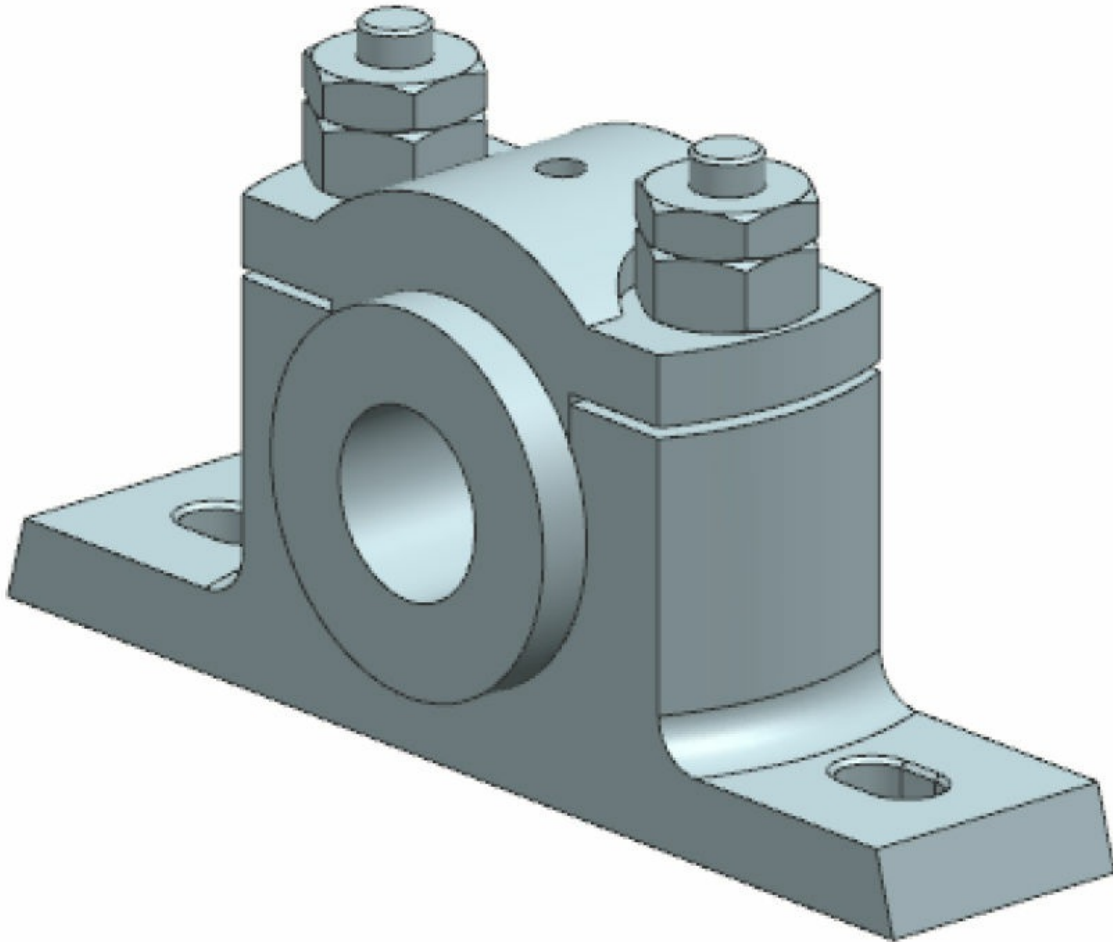

Figure 8-107 The final Plummer Block assembly
9. Similarly, assemble the second instance of the Lock Nut on the other side and then choose the **OK** button to exit the **Add Component** dialog box. The completed Plummer Block assembly is shown in Figure 8-107.